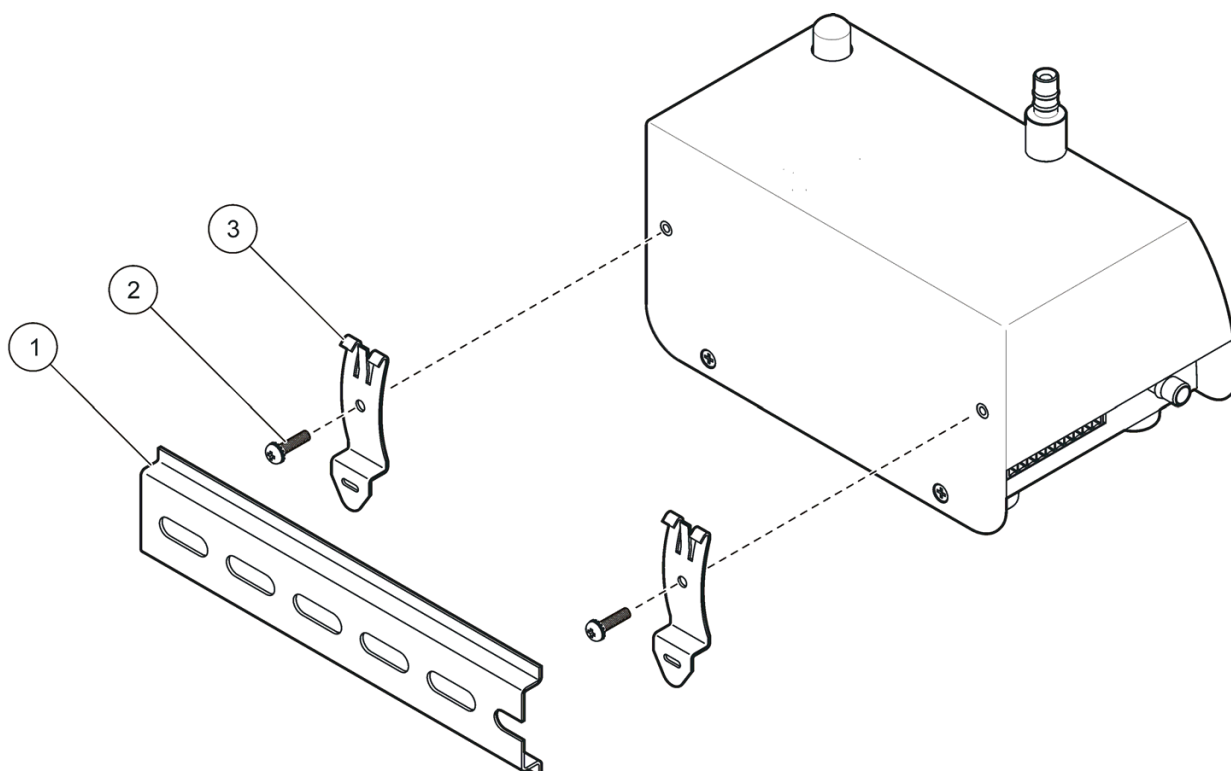

Figure 7 DIN rail installation
1. Attach the 2 clips to the counter with the supplied screws (Figure 7).